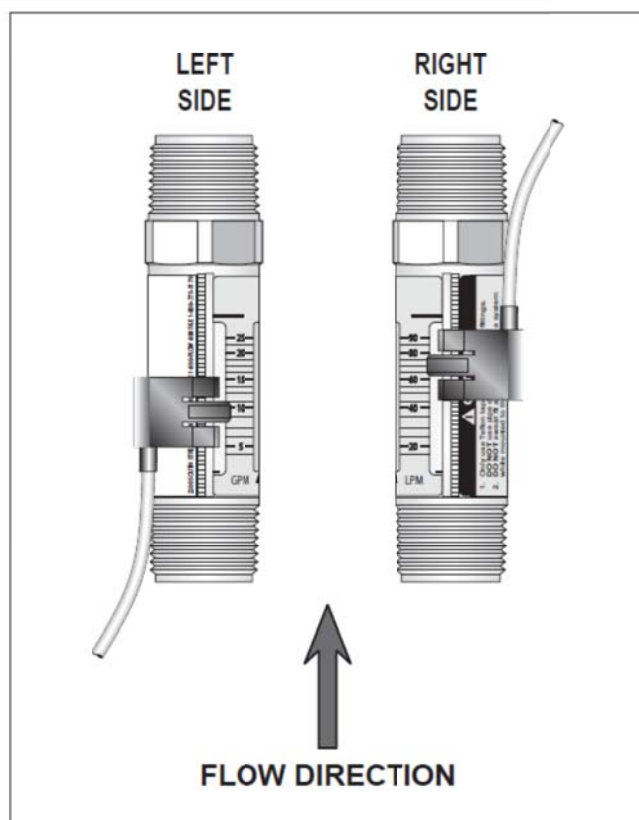

Figure 21. Switch Orientation
1. With the fluid running through the meter, gently move the switch adjustment tab(s) outward until the switch body is free to slide up or down on the serrated rail. See Figure 21.
2. Move the switch into position until the switch activates. See Figure 21.